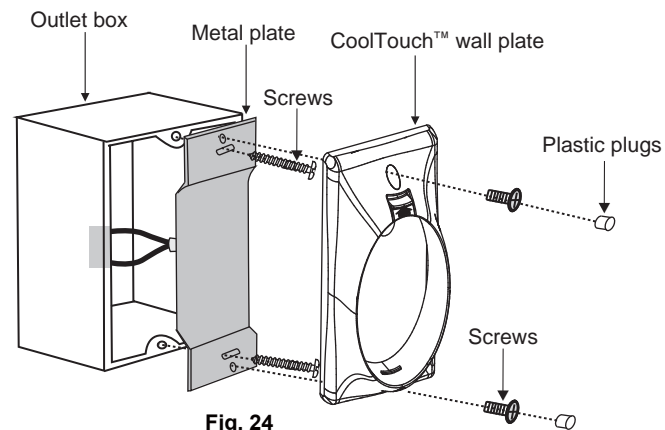

Fig. 24
Step 2. Install the metal plate and CoolTouch™ wall plate to the existing wall outlet box with 4 screws provided. Then place the two plastic plugs into the wall plate. (**Fig. 24**)